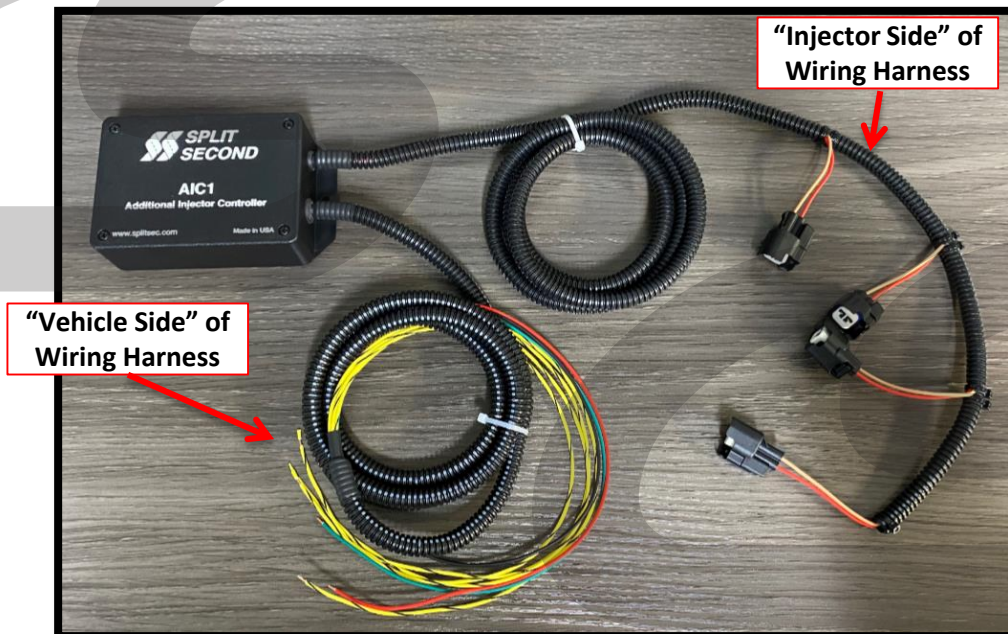

Figure 14a
- a) Each Split Second AIC1-VH4 will come assembled as shown in **Figure 14a**. We will reference the “injector side” and the “vehicle side” of the Split Second wiring harness in later steps.